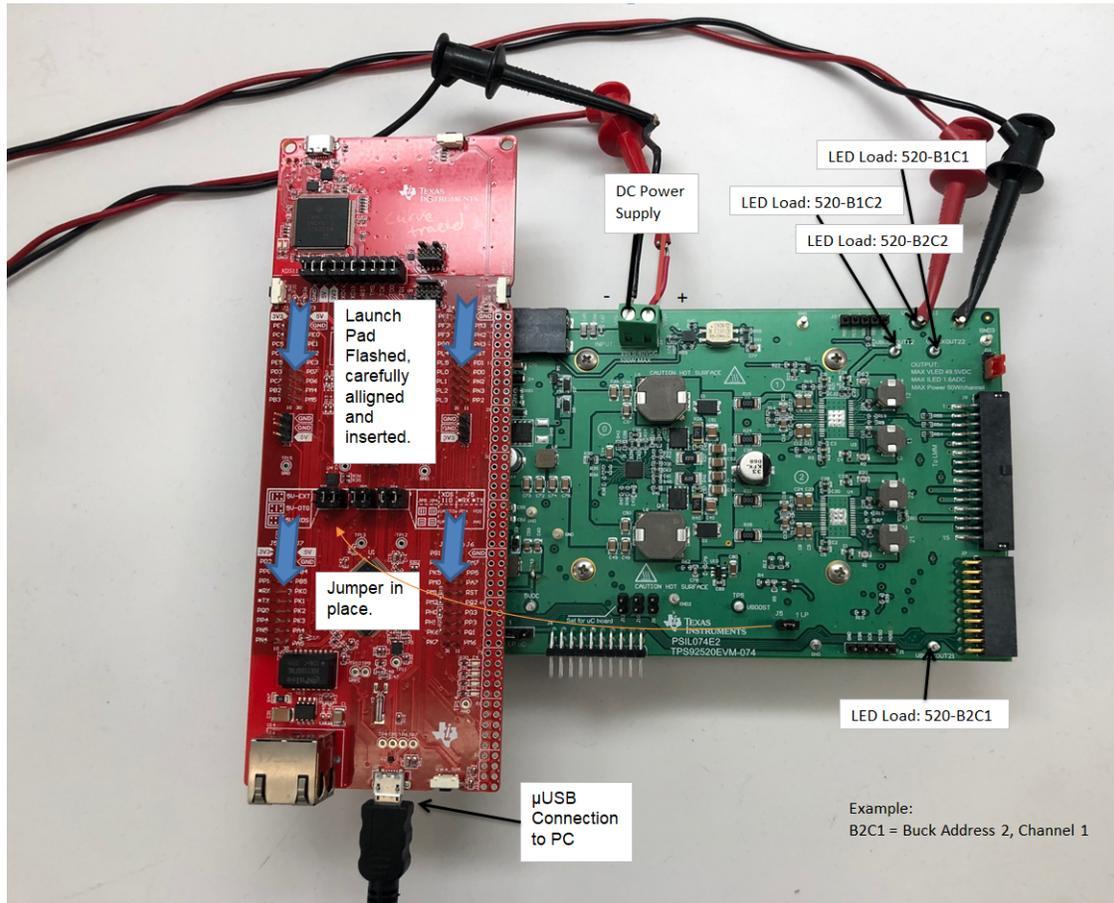

Figure 33. LaunchPad Connection to the TPS92520EVM-074
- a. Up to four independent LED loads. One load is connected as shown in Figure 33.